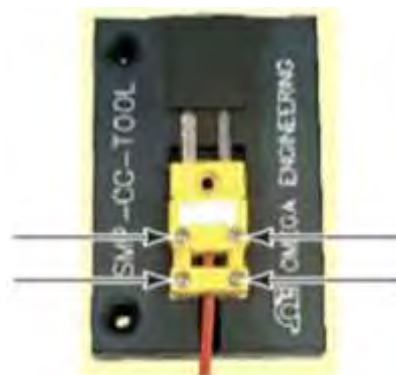

Figure 140
- (1) If assembly tool SMP-CC-TOOL is used, place connector in tool as shown in Figure 140 (Connector with blade contacts is shown, but use is identical for connectors with socket contacts.). If tool is not used, continue to step 2.
- (2) With the #2 Phillips screwdriver, remove the four screws, highlighted by the arrows in Figure 140, from the connector body and discard.
- (3) Remove top cover with integral clamp and discard.